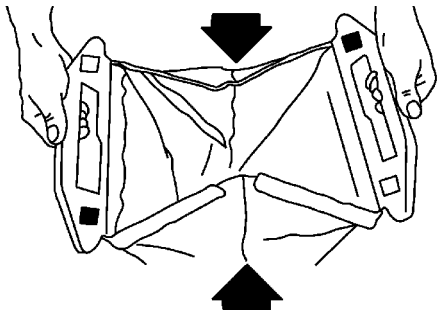

Figure 44
11. Close the rear of the bag by folding the sides in and pressing the interlocking rear handle halves together (Fig. 44).